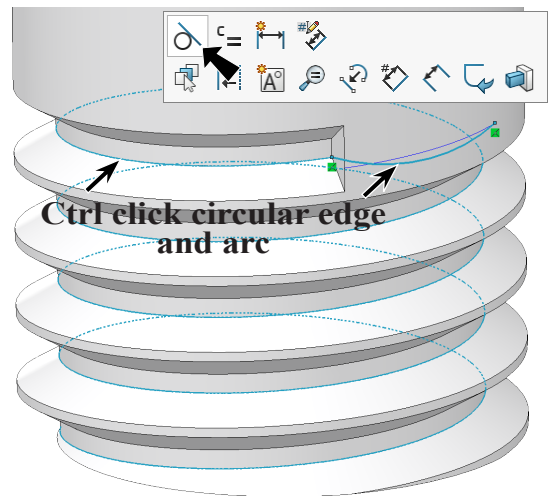

Fig. 52
Step 6. Ctrl click bottom thread circular root edge and arc to select both. Release Ctrl key and click Make Tangent  on the context toolbar, Fig. 52.